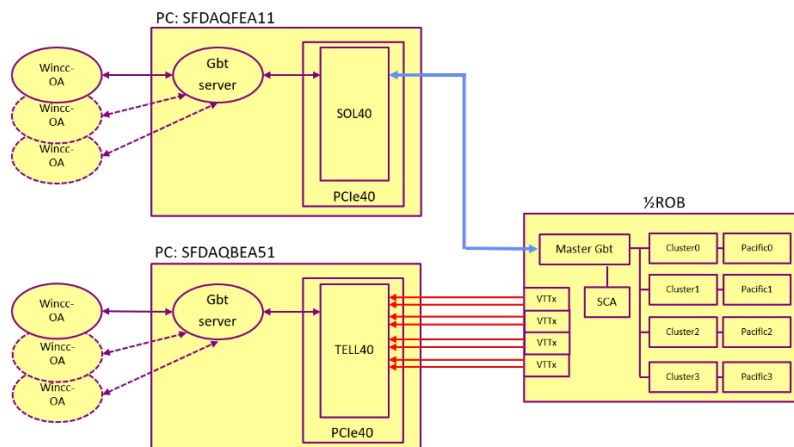

Figure 2: Control flow of a ½ROB
A ½ROB is the final part of the FE-chain to be controlled, hence it acts as the Device Unit (DU) of the FE sub-system. It contains a Master-board, 4 Cluster-boards and 4 PACIFIC-boards. The Master GBTX chip of the Master-board is connected by a fiber, known as the *control link* (blue), to a SOL40 board in order to provide a bi-directional connection to control and monitor the ½ROB. Figure 2 shows the connection diagram, including the 8 unidirectional *data link* fibers (red) to the TELL40, which are used for the physics data.